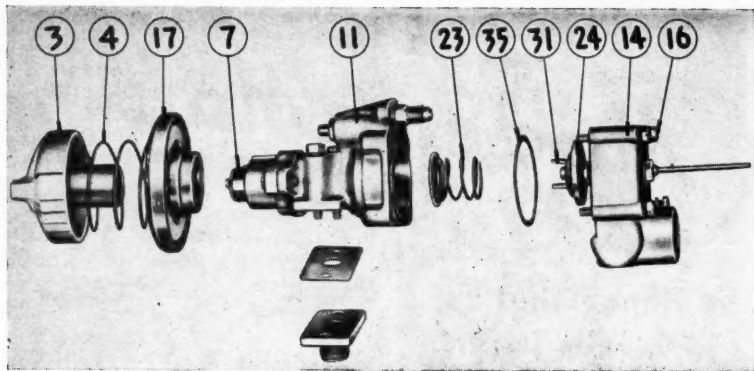

Fig. 20.
Shut off gas in supply line and disconnect piping from outlet of control. Then remove the four screws (16) pictured in Fig. 20. It is now possible to separate the diastat housing (14) from the body (11). The valve disc (24) is